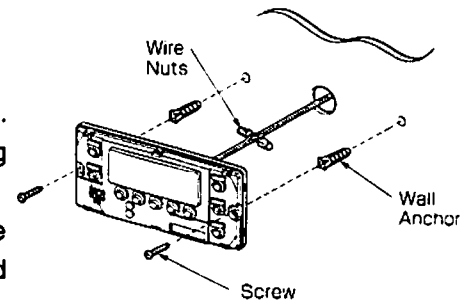

Fig.4: Gasket Placement
10. Run low voltage thermostat wire through the 3/4-in drilled hole. Connect the thermostat wire to the Controller Base wire using wire nuts or other approved solderless connectors. (Fig.4)
5. Loosen the Clamp Screw and attach the wire to the terminal with the clamp provided with the remote control. (Fig.4)